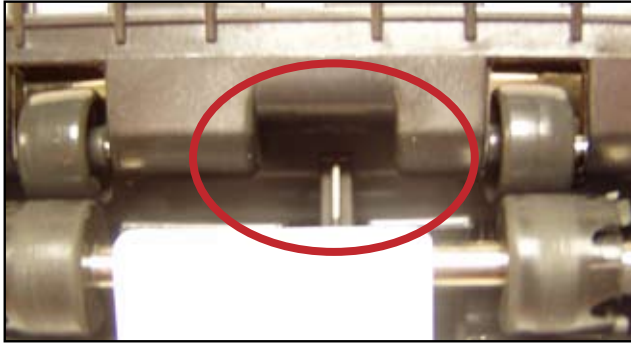

Figure 3: 4200 or 4300 fuser. Exit sensor flag and delivery guide cutout are circled.
4. Look at the exit sensor flag and delivery guide (see Figures 3 and 4). The 4240/4250/4350 fuser has a different style flag than the others. The flag is also positioned differently, and the delivery guide has an extra cut-out to accommodate the flag.